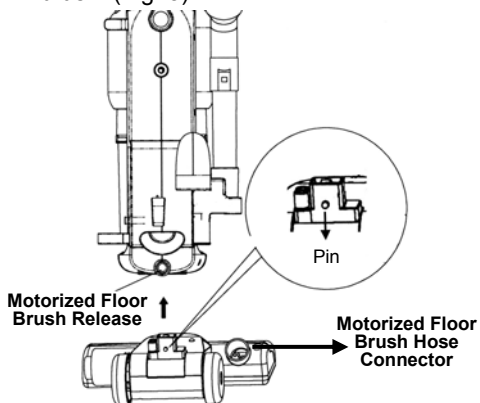

Fig. 2
- Insert the motorized floor brush into its location at the bottom of the main unit, in the direction of the arrow. (Fig. 2)